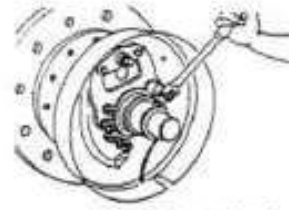

Figure 2-16
8) Remove the E-shaped retaining ring used for fixing the brake cable on the brake backing plate. Then remove the mounting bolt on the brake backing plate and dismount the brake backing plate from the drive axle. See figure 2-16